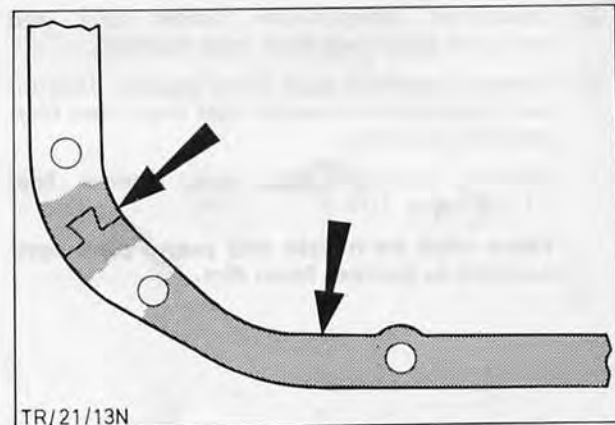

Fig. 98. Apply sealer to sump gasket
4. Clean engine block to sump sealing faces. Stick gasket to block using grease, applying sealer to joints and gasket in vicinity of joints, Fig. 98.